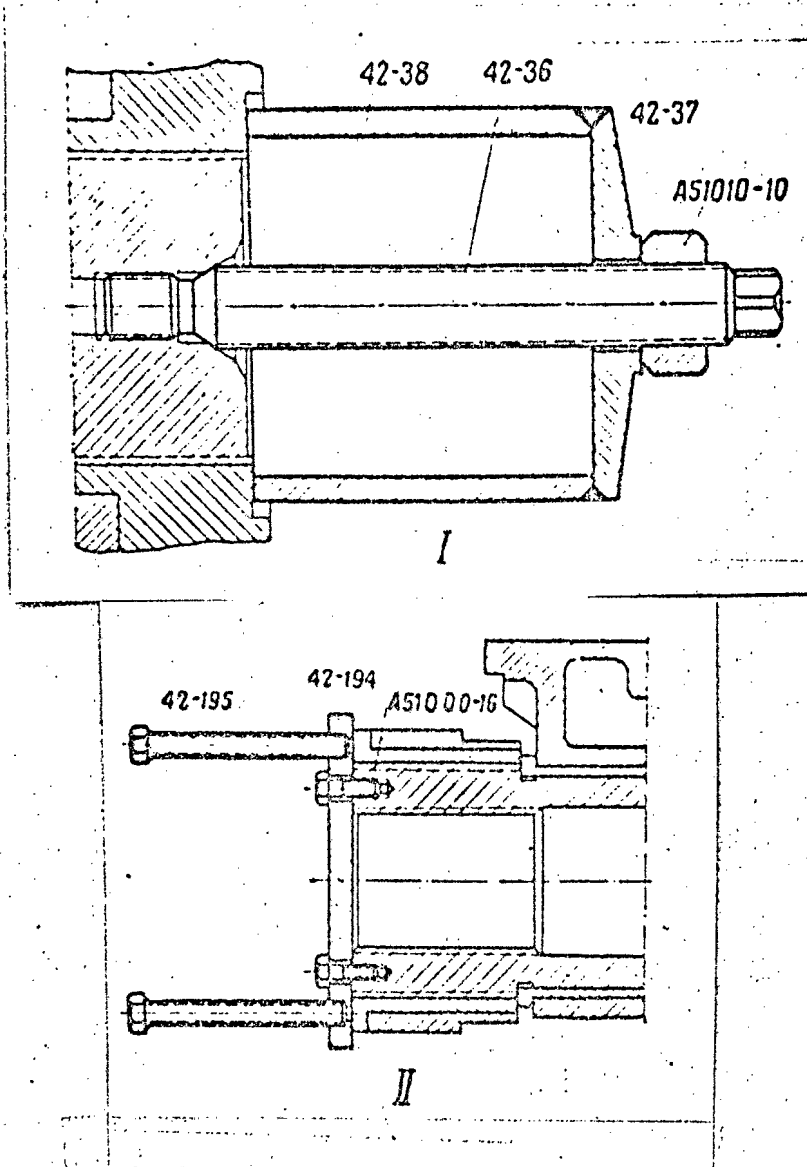

Fig 61. Tools
— with wrench Sb42-52 screw in screw 42-36 of tool Sb42-9 (Fig. 61) into the hole at the end of the torsion bar and, by turning nut A51010-10 with wrench A52830-6, extricate the torsion bars.
-- set up plate 42-194 of tool Sb42-50 (Fig. 61) and screw bolts A51000-16 into front bushing 8 (Fig. 58) with wrench A52830-4;
5. Screw in screw 42-36 of tool Sb42-9 into the threaded hole at the end of the torsion bar with wrench Sb42-52 (Fig. 61) and by turning nut A51010-10 with wrench A52830-6, remove the torsion bar.